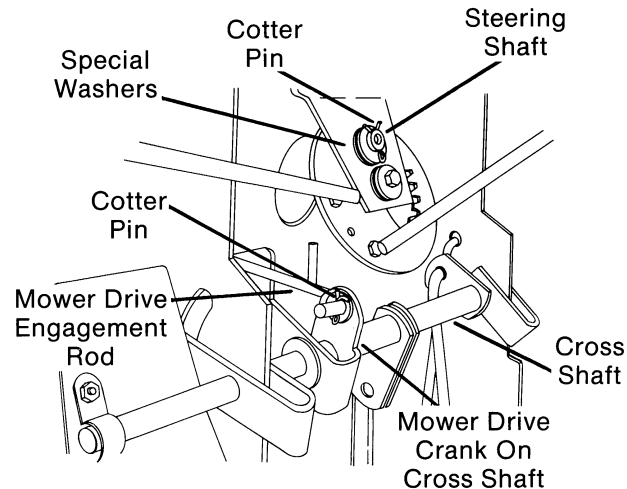

FIG. 34
- Remove cotter pin holding mower drive engagement rod mower drive crank on cross shaft. (Fig. 34)
- Remove cotter pin, special washers and flange bearing at bottom of steering shaft. (Fig. 34)